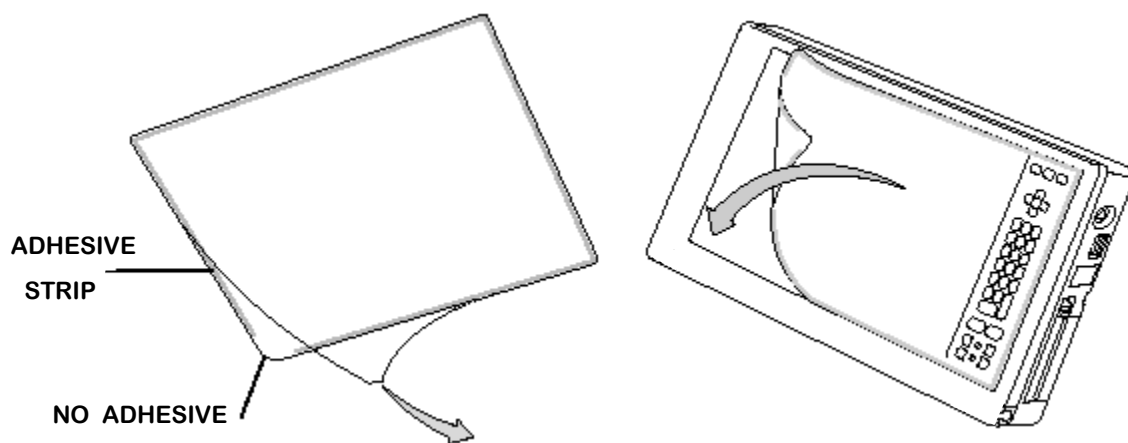

Figure 4 Screen Protector
- (1) Peel protective film from the adhesive side of the screen protector, see Figure 4.
- (2) Apply the adhesive side to the screen with glueless corner in the lower left, see Figure 4.
- (1) Peel protective film from the adhesive side of the screen protector, see **Figure 4**.
- (2) Apply the adhesive side to the screen with glueless corner in the lower left, see **Figure 4**.
- (3) Apply pressure along the edges of the screen protector.
- (4) Remove the protective film from the top of the screen protector.
- (5) Wipe the exposed surface of the screen protector with a clean dry cloth to remove any adhesive left behind by the protective film.
- (1) Peel the protective film from the adhesive side of the screen protector, see **Figure 4**.
- (2) Apply the adhesive side to the screen with the glueless corner in the lower left, see **Figure 4**.